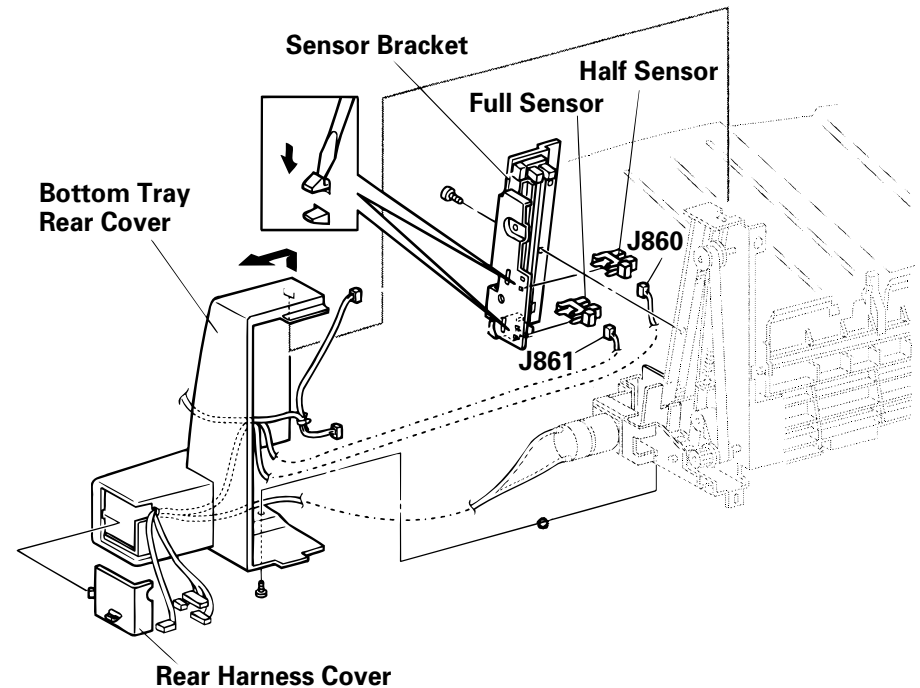

Figure 3-24. Bottom Tray Half and Full Sensors
1. Place the Full Sensor as shown in the Figure 3-24 and insert it with latches ahead into the cutouts of the Sensor Bracket and set the latches on.
3. Place the Half Sensor as shown in the Figure 3-24 and insert Half Sensor with latches ahead to the cutouts of the Sensor Bracket and set the latches on.
3. Place the Upper Limit Sensor as shown in the Figure 3-24 and insert it with latches ahead into the cutouts of the Sensor Bracket and set the latches on.